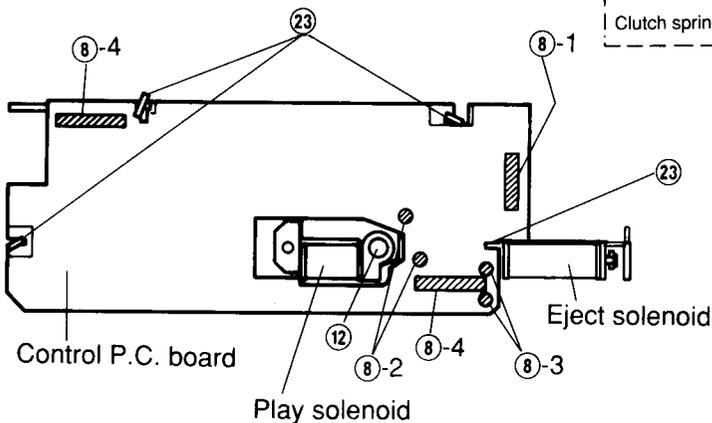

Figure 11
- (2) Remove solder ⑧-1, and remove the parallel wire (5P) from the control P.C. board as shown in Figure 11.
- (1) Remove the two solders (8-2) as shown in Figure 11.
- (2) Remove one screw (12) and remove the solenoid as shown in Figure 11.
- (3) Mount the new solenoid following the removal steps in the reverse order.
- (1) Remove two solders (8-3). Take care not to lose the tube that protects the wire. (Refer to Figure 11.)
- (1) Remove seven solders ㉑ and remove the three parallel wires and the wires of the eject solenoid and of the play solenoid as shown in Figure 11.
- (2) Remove five claws ㉓ and remove the P.C. board as shown in Figure 11. [For GR75E Series model] Remove four claws ㉓ and remove the P.C. board as shown in Figure 11. [For GR75L Series, GR-Y Series, GR75H Series models]
- (3) After replacing the old P.C. board with a new one, mount it following the removal steps in the reverse order.